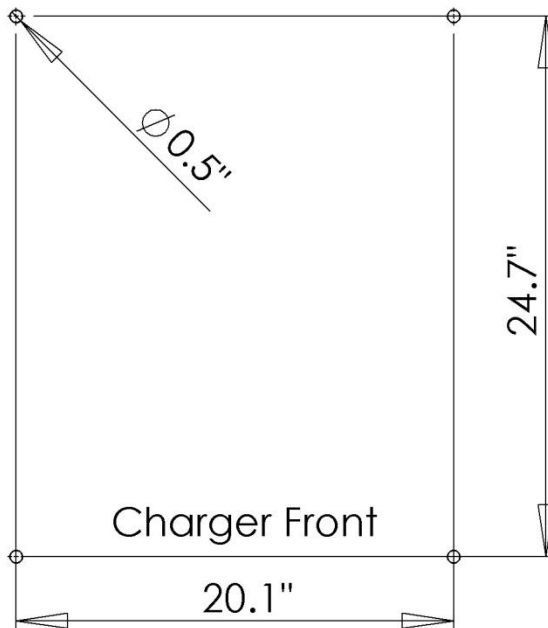

Figure 2: Floor-mounting bolt pattern
- i. Use the bolt pattern (Figure 2) to install mounting hardware in the floor. Use 3/8-16 fasteners with lock and fender washers to secure the charger to the floor through the holes in the feet.